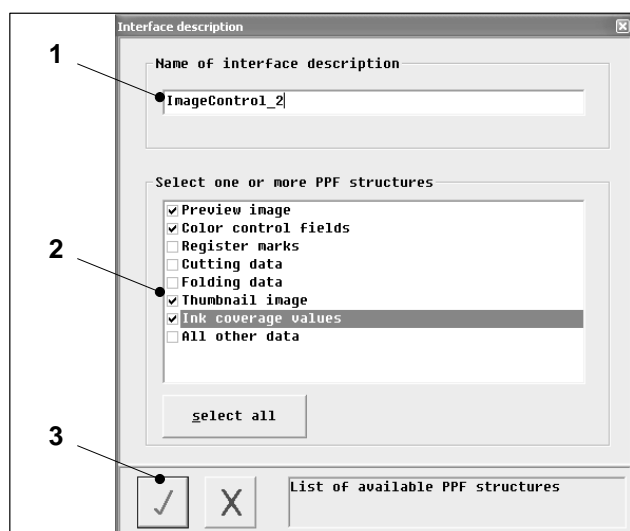

Fig. 49 Editing the interface description
The *Interface description* dialog window opens (Fig. 49).
- Assign a new name to the interface description (Fig. 49/1)
- Activate/deactivate corresponding PPF attributes (Fig. 49/2) for the name of the interface description.
5. Click on *OK* to confirm your entries (Fig. 49/3).